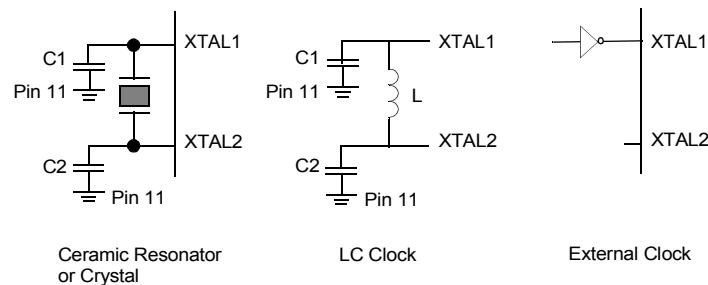

Figure 17. Oscillator Configuration
The Z86E61/E63 on-chip oscillator has a high gain, parallel resonant amplifier for connection to a crystal, LC, ceramic resonator, or any suitable external clock source (XTAL1 = Input, XTAL2 = Output). The crystal should be AT cut, 1 MHz to 16 MHz max; series resistance (RS) is less than or equal to 100 Ohms. The crystal should be connected across XTAL1 and XTAL2 using the recommended capacitors ( $10 \text{ pF} < C_L < 100 \text{ pF}$ ) from each pin to ground (Figure 17).